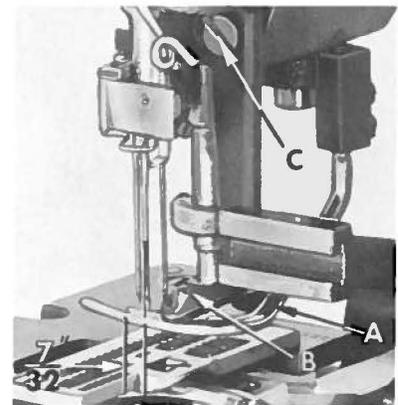
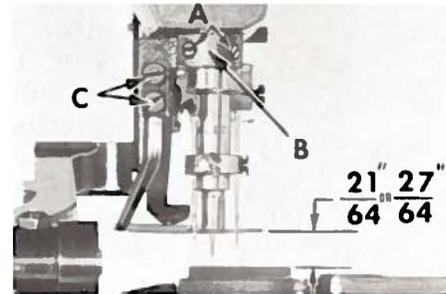

Fig. 11
Fig. 12
With the needle bar in its up position, and the spreader (A, Fig. 11) at the left end of its stroke, the upper spreader point should extend 7/32 inch to the left of the center line of the center needle. This is accomplished by loosening screws (A, Fig. 12) and rotating spreader holder (B) to position the upper spreader point. Retighten screws.
CAUTION: The spreader holder is also the lower thrust collar for the spreader shaft, so when tightening screws (A, Fig. 12) be sure to push down on the spreader shaft and up on the spreader holder.
The spreader should clear the left needle shank by 1/64 to 1/32 inch on all machine Styles. The bottom of the spreader should be 21/64 inch above the throat plate on machine Styles 57900 F, G, H and 27/64 inch above the throat plate on machine Style 57900 N (Fig. 12). Adjustment can be made by loosening screws (C, Fig. 12) and position spreader as required.
The left edge of the spreader thread guide (B, Fig. 11) should clear the right needle by approximately $\frac{3}{32}$ inch and be kept close to the top of the spreader. This can be accomplished by loosening screws (C) and moving the guide as necessary.